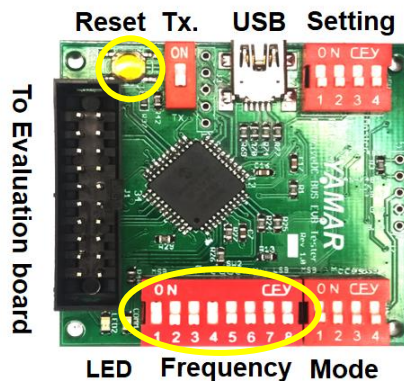

Figure 20 – EVB Tester board 19.4MHz carrier frequency setting example
3. Click the reset button on the TX and RX EVB Tester boards as shown in Figure 20.